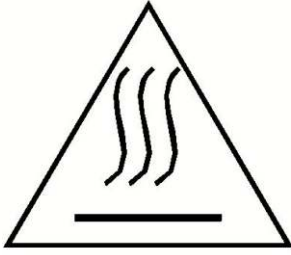

Fig.2
- Any accessible surfaces may become hot during use (Fig.2)